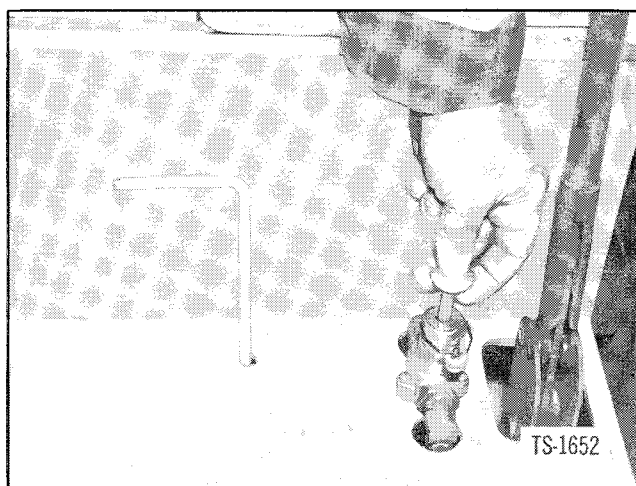

Fig. 6. Priming Pump (Waukesha Diesel)
1. Prime fuel lines as shown in Figure 6.